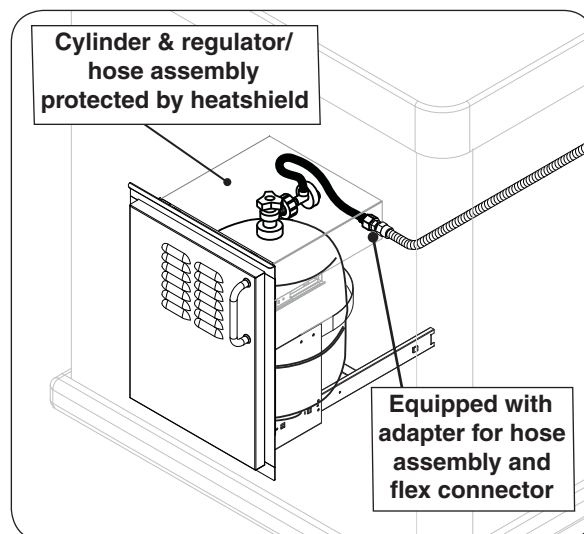

Fig. 8-3 Optional Fire Magic door w/tank tray
- **Fire Magic offers a propane cylinder door with tank tray to meet the cylinder install requirements. See Fig. 8-3.**